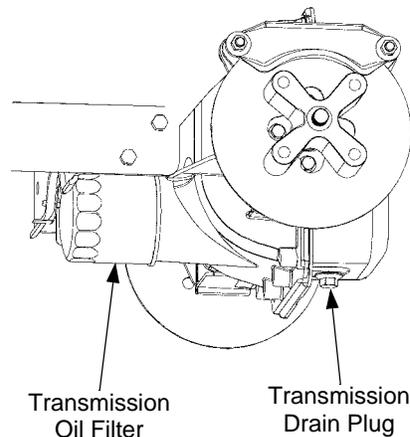

Figure 19
- Clean the area around the transmission drain plug to prevent debris from entering the transmission case. Remove the drain plug and allow the transmission oil to drain into a clean container having a capacity of more than 3 quarts. Reinstall the drain plug. See Figure 19.